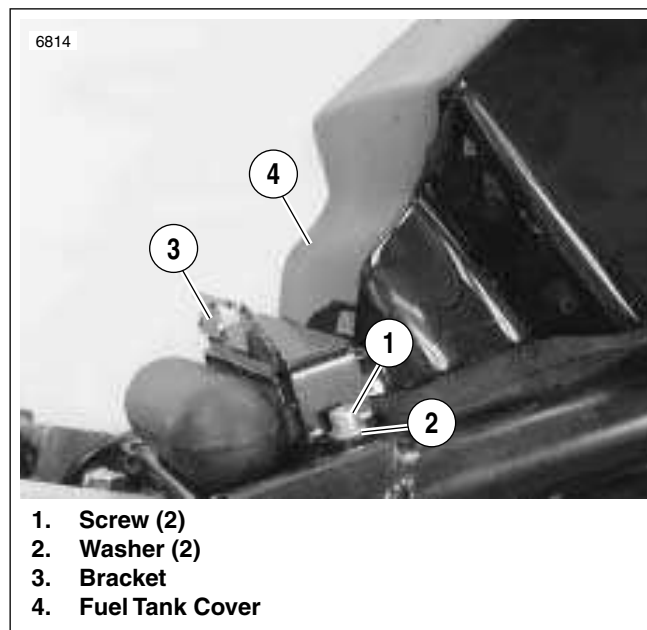

Figure 2-122. Fuel Tank Cover Bracket
2. See Figure 2-122. Remove two fuel tank cover screws (1) and washers (2) from bracket (3). Remove bracket.
4. See Figure 2-122. Install bracket.
- a. Position bracket (3) over fuel tank cover (4). Tab on bracket must face towards rear wheel.
- b. Install two screws (1) and washers (2). Tighten screws to 9-11 ft-lbs (12-15 Nm).